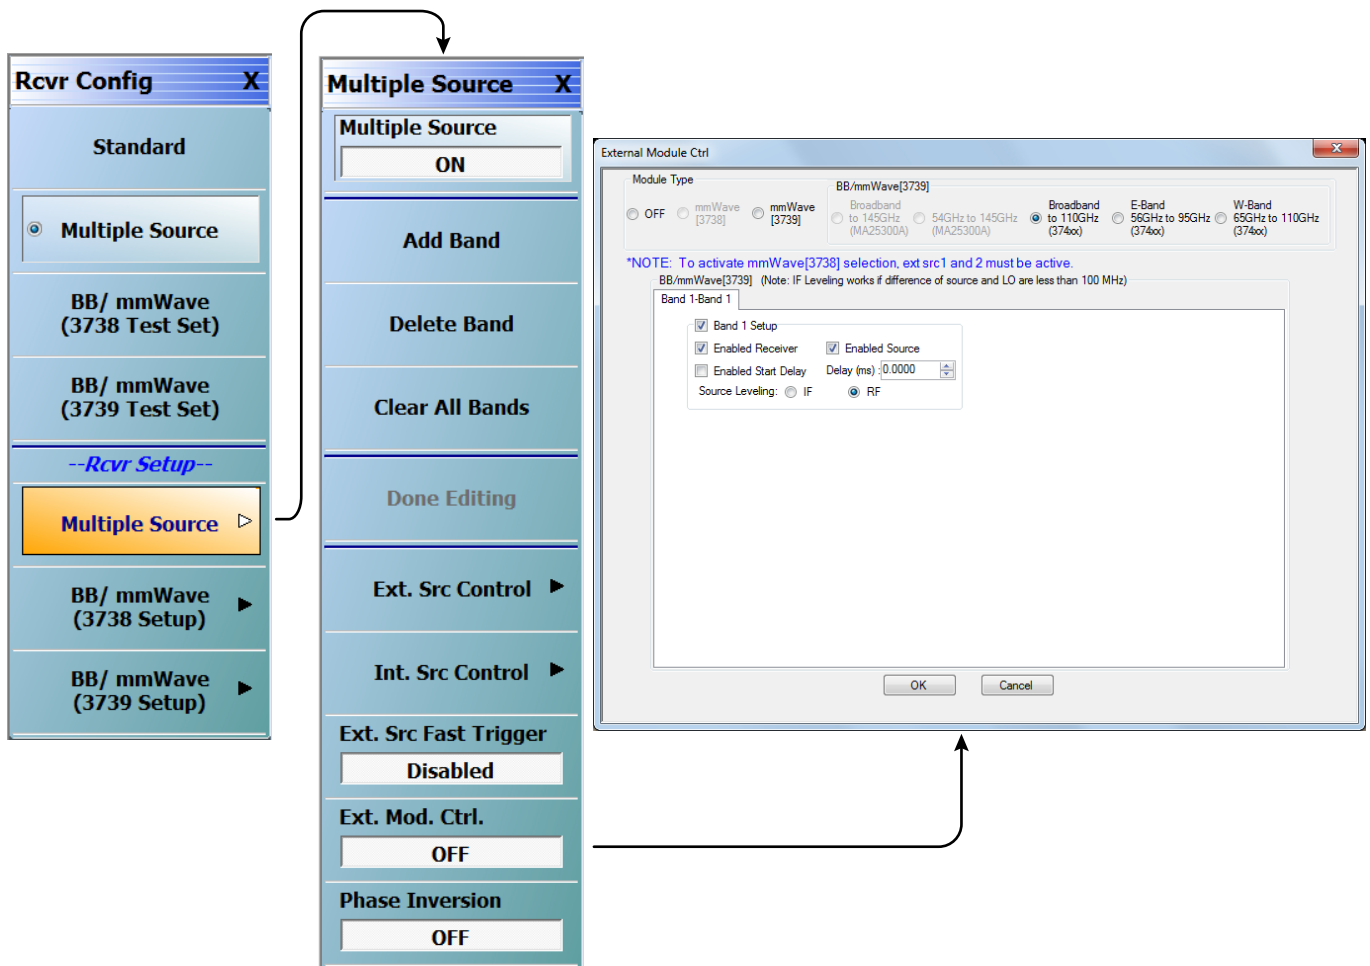

Figure 5-4. Receiver Configuration for Multiple Source
3. From the Application menu select Rcvr Setup (Figure 5-4).